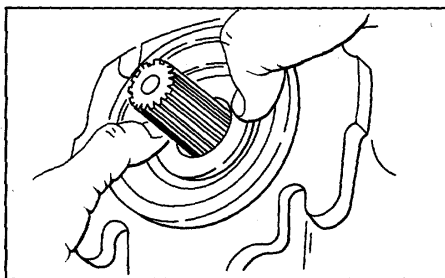

Figure 23.
6. Install stationary seal and retainer into place and press retainer in so snapping groove is open (refer to Fig. 23).